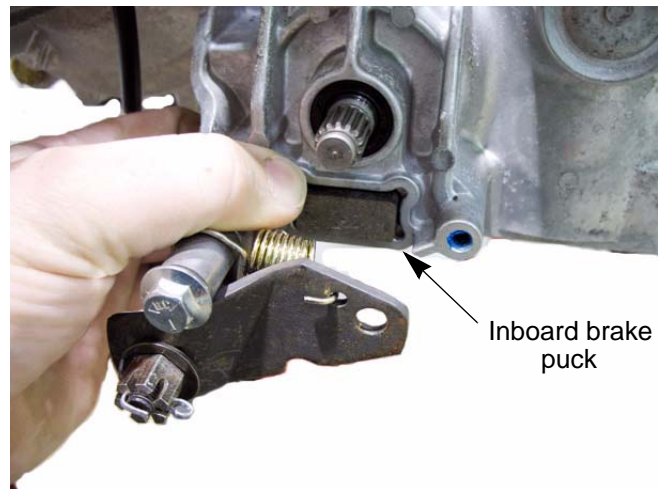

Figure 3.8
7. Slide the brake rotor off to reach the inboard brake puck. See Figure 3.8.